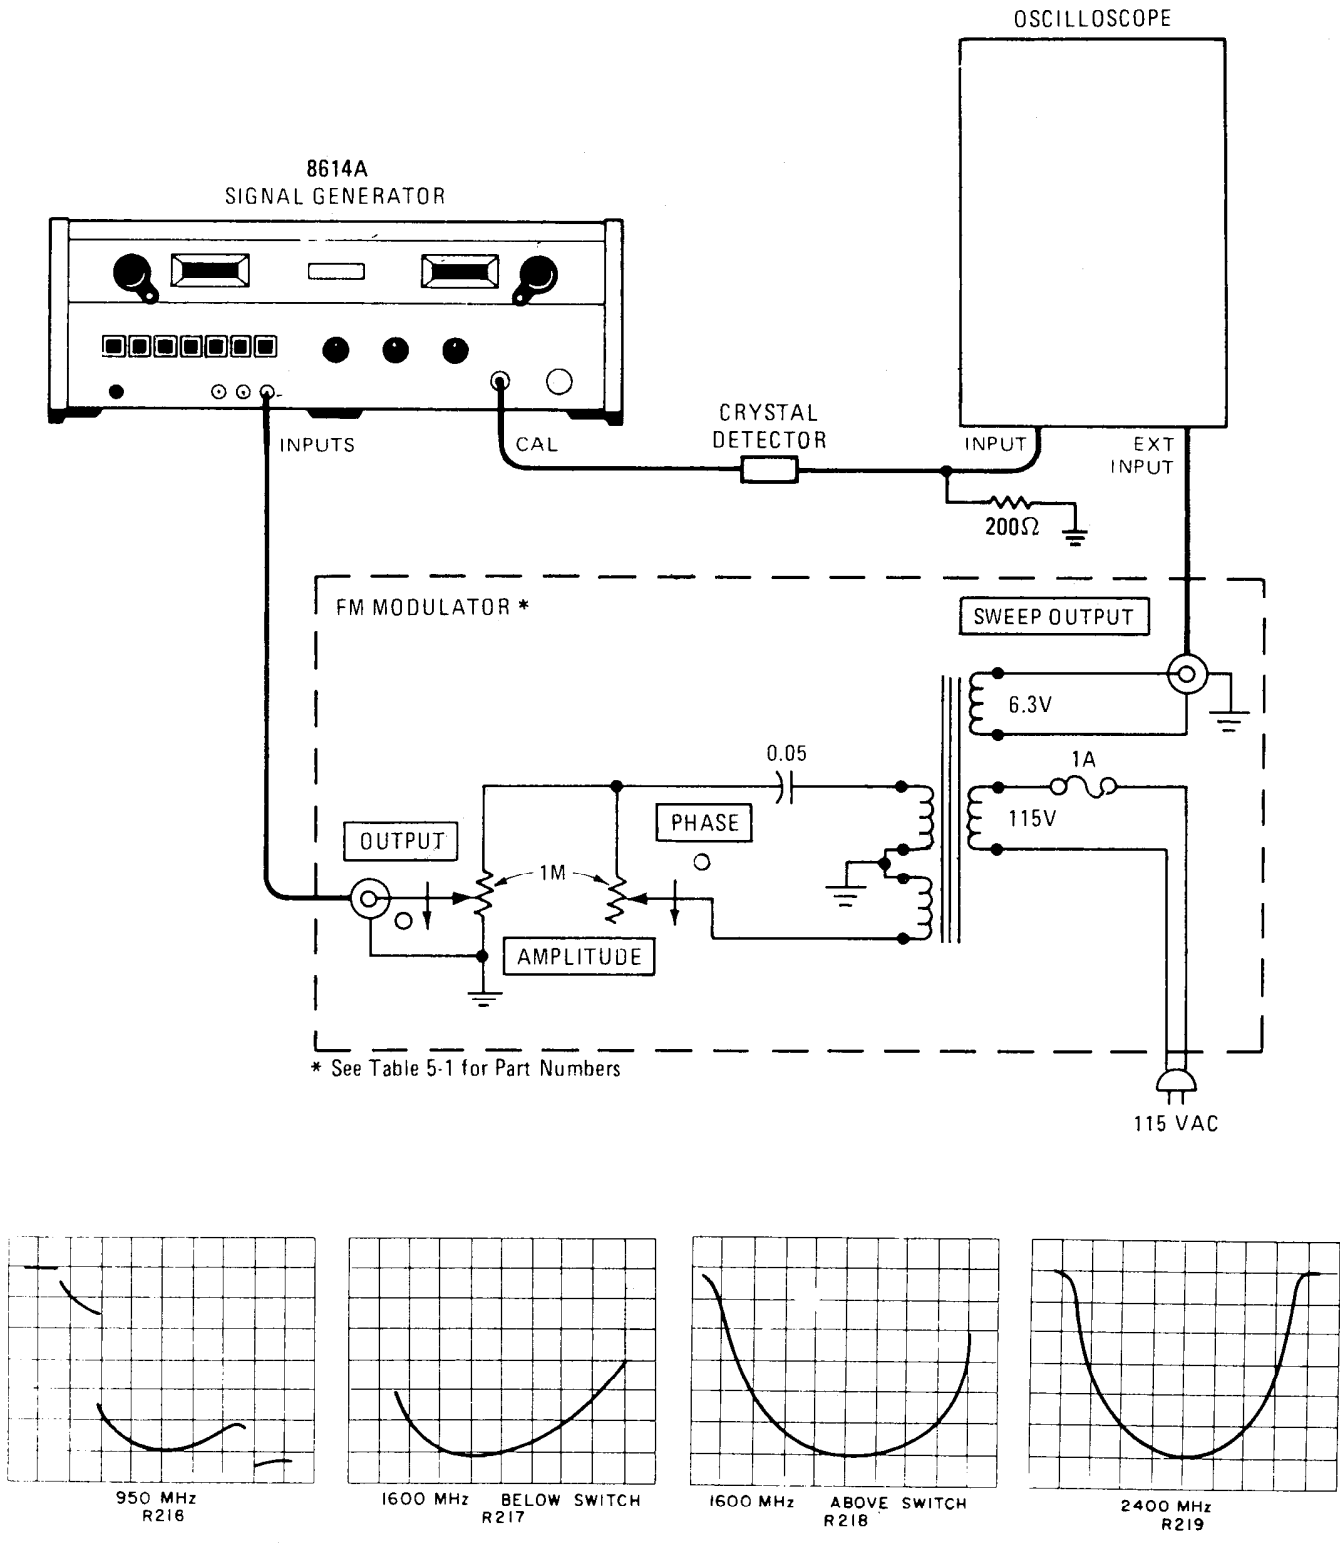

Figure 5-14. Repeller Mode Adjust Setup
- b. To observe repeller modes of the klystron, a FM Modulator, with adjustable phase and amplitude controls, is necessary. Such a device is shown in Figure 5-14; it consists of a small power transformer connected with the primary and secondary windings